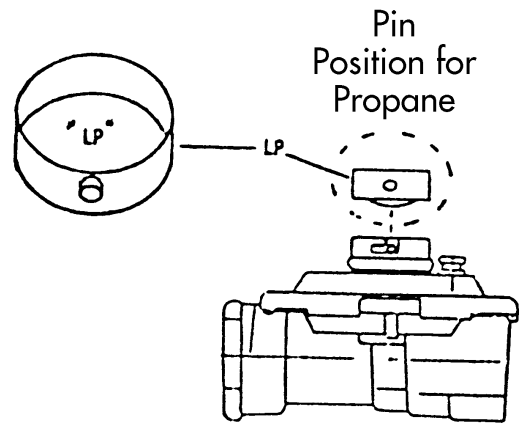

FIGURE 9
6. The cooktop is supplied with a pressure regulator that is packed with the unit. The regulator is set for natural gas. For use with propane, it must be converted. The regulator will be located on the left rear bottom of the unit. Using a flat blade screwdriver, remove the cap on the top of the regulator and turn the cap over so that the letters LP are exposed. Make sure the spring in the regulator remains in position. Reattach the cap to the regulator. **See Figure 9**, right.